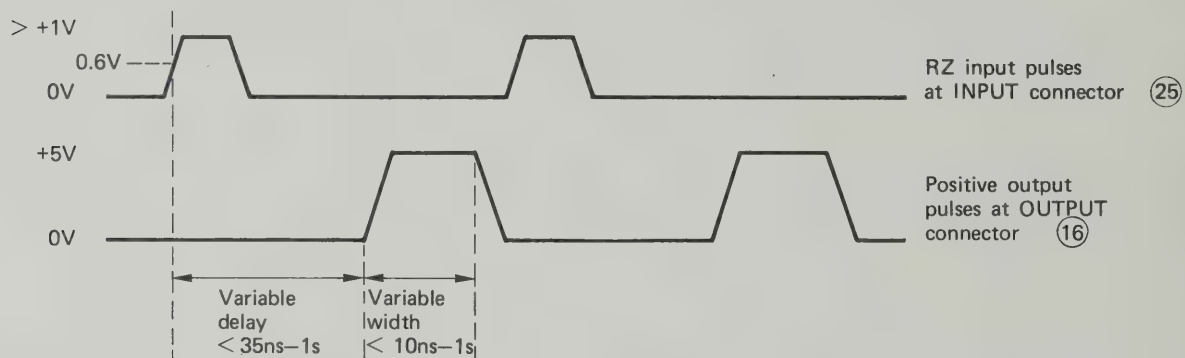

Figure 3-19. Output pulses in RZ mode
a. Connect the external signal to the INPUT connector (25) on the rear panel of the 8012B.
b. Set the Mode Selector switch (24) to RZ.
3-44 The output pulses should appear at the OUTPUT connector (16) as shown in Figure 3-19.